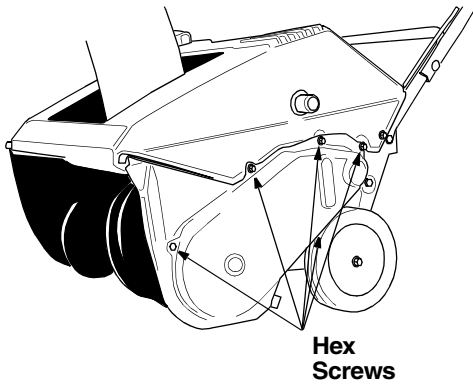

Figure 16
- Remove the belt cover by removing five hex screws that hold it in place. See Figure 16.
- Remove the belt cover by removing five hex screws. See Figure 16.